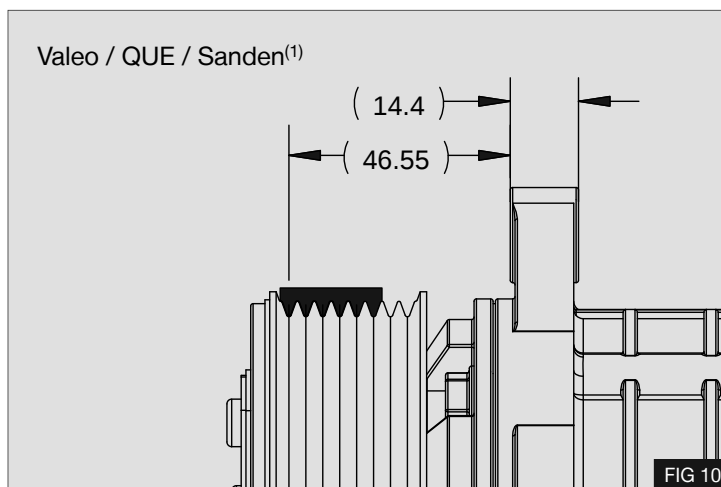

FIG 10
- A.** Valeo / QUE / Sanden⁽¹⁾ compressors – Belt is installed in the grooves at the front of the compressor pulley - Fig 10